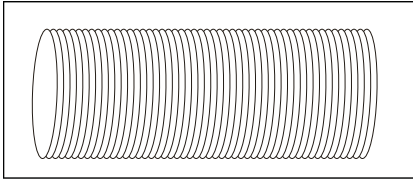

Fig. 3
1. Take the hose out from the packaging. (Fig.3).